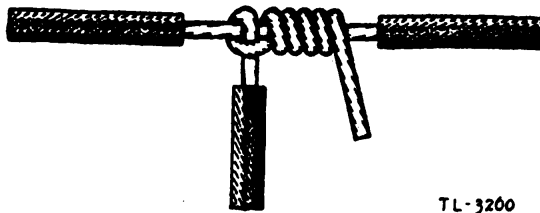

Figure 6
9. Tap splice.—This splice is used to tap a wire into a permanently installed line wire without cutting it. It may be made with either solid or stranded conductors, or a combination of both. To make the splice, remove 1 inch of insulation from the permanently installed wire and about 3 inches from the other wire. Lay the cleaned end of the tapping wire over the line wire. Make one wrap around the permanent wire with the tapping wire. Bring the end of the tapping wire across the standing part of the tapping wire, underneath the permanent wire, and with the remainder of the cleaned end of the tapping wire, place five close turns around the permanent wire. See figure 6.